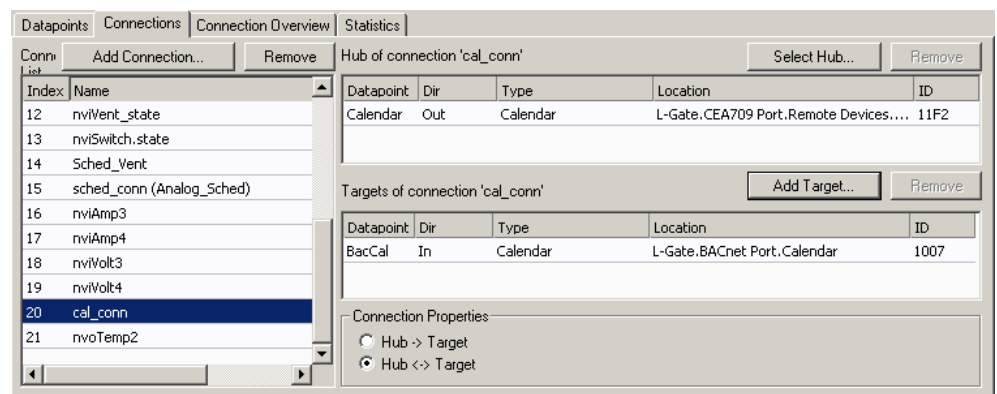

Figure 111: Calendar connection CEA-709 to BACnet.
11. Click **Save**. Now a calendar connection appears in the connections list as shown in Figure 111.